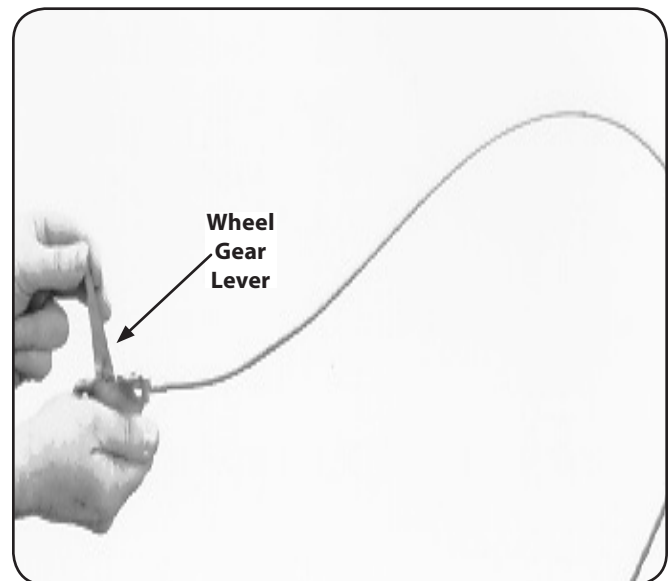

Figure 3-4
9. To remove the tiller from its shipping platform, first carefully unwrap the wheel gear cable with the attached lever from around the chassis. Move the Wheel Gear Lever to the DISENGAGE position, this allows the wheels to rotate freely. See Figure 3-4. Use the handlebars to roll the tiller off the platform.